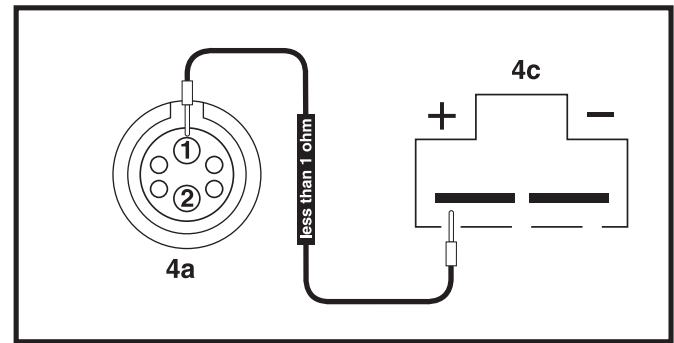

Figure 9. Connectors 4a and 4c
27. Measure resistance across pin 1 on connector 4a and pin 1 on connector 4c. **See diagram 1 and figure 9.**